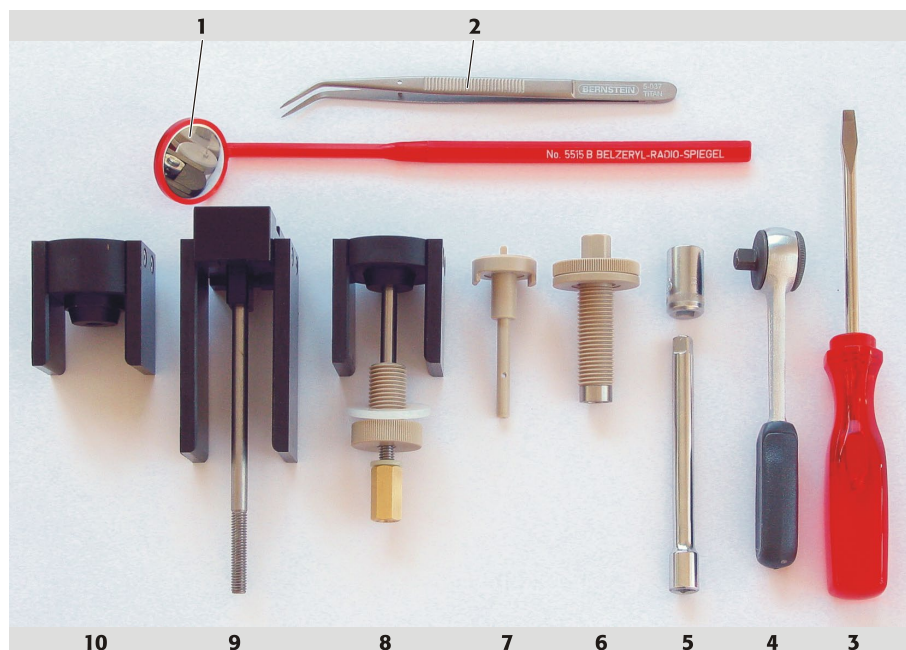

Fig. 53 Furnace tools
Screw the press-out tool (6 in Fig. 53) as far as the stop in the furnace jaw using a ratchet wrench (4 in Fig. 53). Keep carefully rotating the press-out tool in until the electrode falls out of the electrode holder. Unscrew the press-out tool from the jaw.
3. Screw in the press-out tool (6 in Fig. 53) in place of the removed temperature sensor as far as the stop.